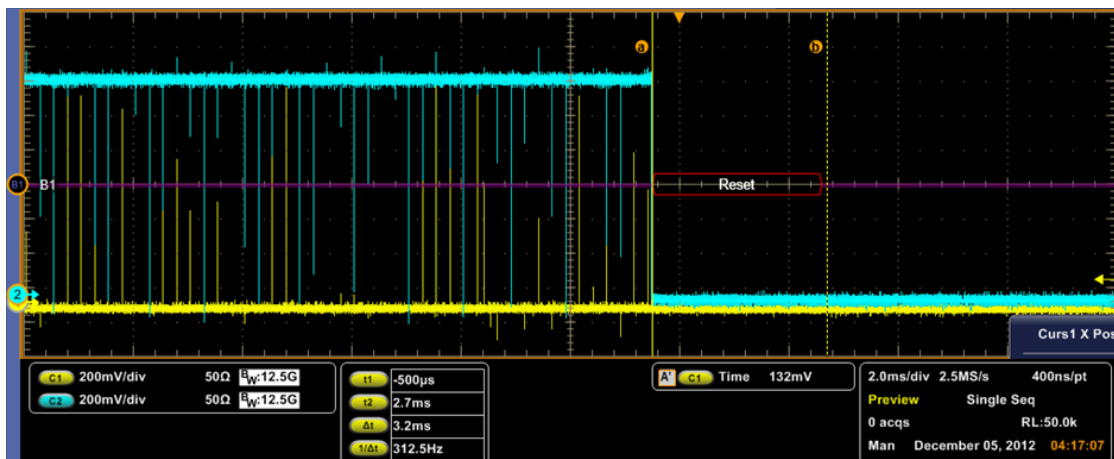

Figure 17 Reset from High Speed
- The waveform should look like Figure 17.